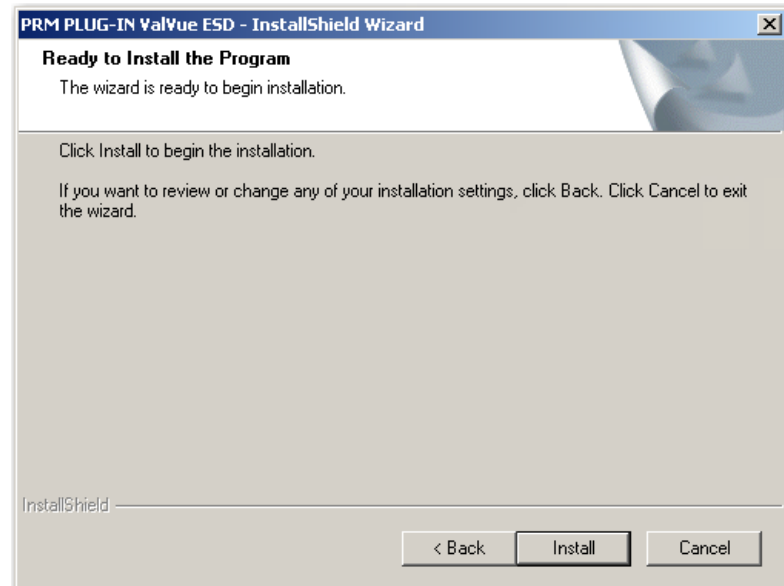

Figure 19 - Ready to Install
8. Navigate to the desired folder, click **OK** and **Next** and the screen appears (*Figure 19*).